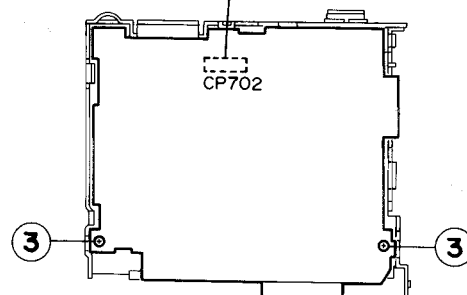

Fig. 2-8
1. Desolder the lead wires of the loading motor at the 2 positions shown (red, black). (Fig. 2-8)
2. Desolder the lead wires of the head at the 3 positions shown (red, yellow, black). (Fig. 2-8)
3. Remove the three screws ① securing the head relay PCB. (Fig. 2-8)
4. Shift the interlocking section ② securing the head relay PCB in the direction shown by the arrow A to remove the PCB. (Fig. 2-8)